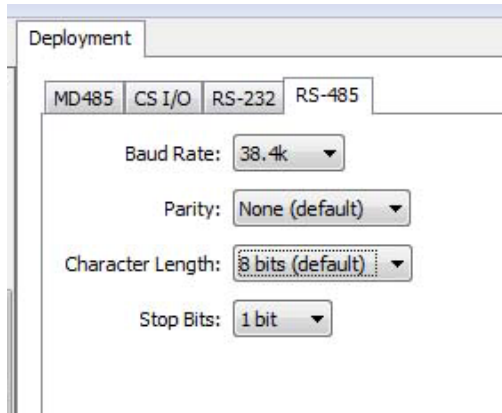

FIGURE 8-15. MD485 RS-485 tab
6. Click the **RS-485** tab. Set Baud **Rate** to **38.4k**. Set **Parity** to **None**. Set **Character Length** to **8 bits**. Set **Stop Bits** to **1 bit** (FIGURE 8-15).